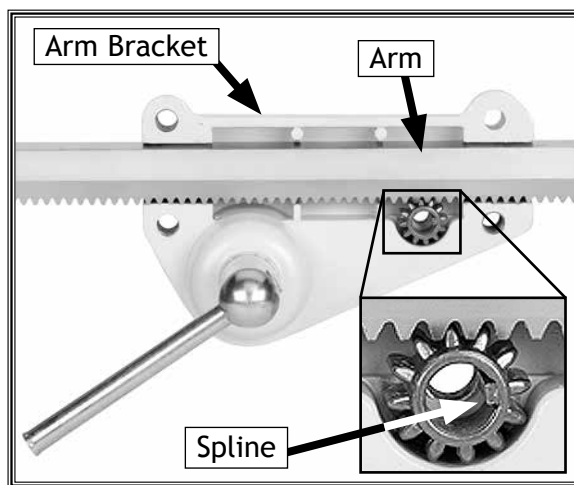

Figure 29. Arm bracket gearing.
9. Place the arm into the arm bracket so the teeth of the gear and arm mesh, as shown in **Figure 29**.
11. Insert the horizontal crank completely so it engages the spline (**Figure 29**) in the gear.